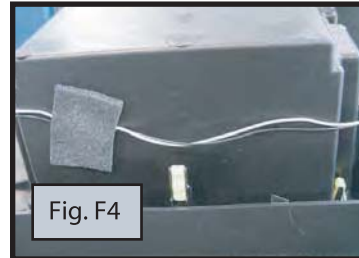

Fig. F4
4. Use adhesive pad to secure wires. (Fig. F4)